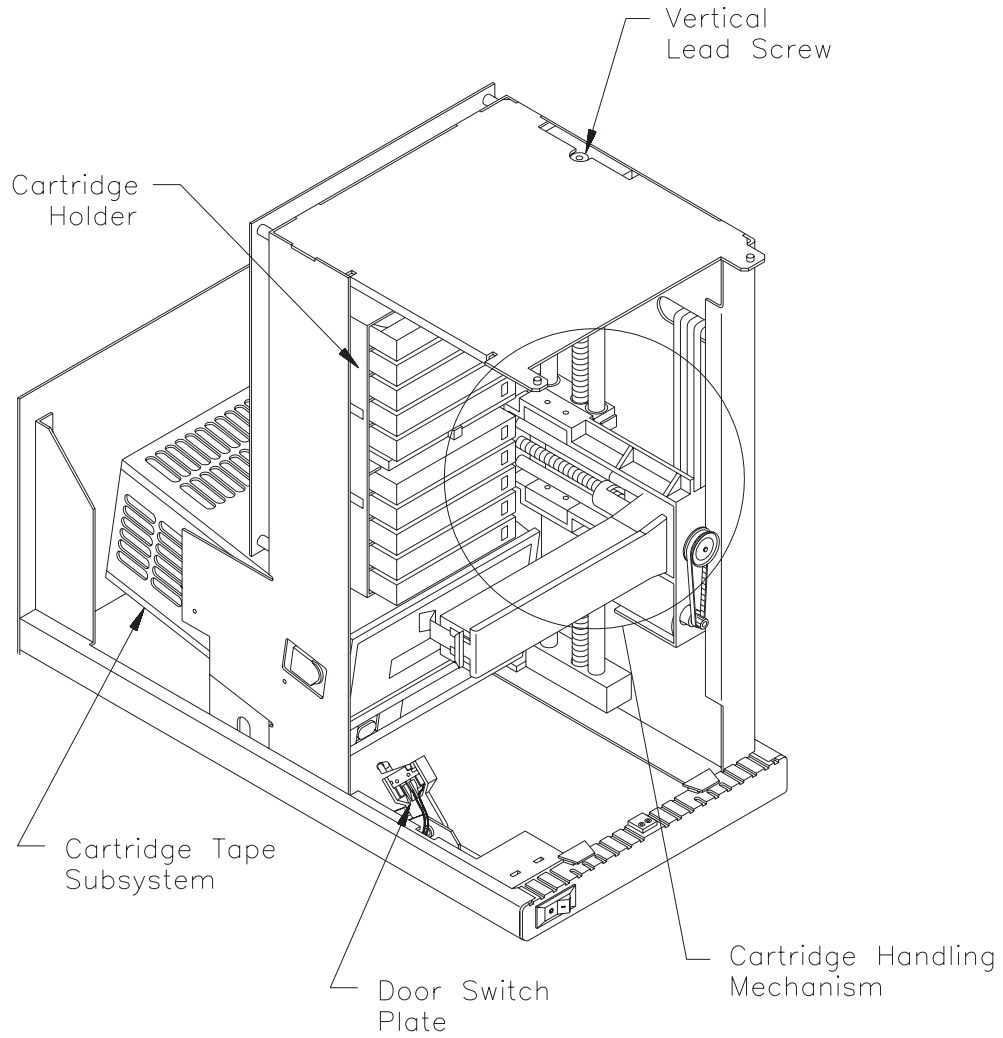

Figure 2-2 Inside components of the EXB-10i
When you open the door, two interlock switches inside the door cause the cartridge handling mechanism to “freeze” in its current position. (See Figure 2-2 for the location of the cartridge handling mechanism.) This safety feature enables you to perform the following actions without disturbing EXB-10i operation:
- Remove and replace individual data cartridges in the data cartridge holder (see Figure 2-2 for the location of the cartridge holder)
Figure 2-2 shows the inside of the EXB-10i (with the cover and upper bezel removed).